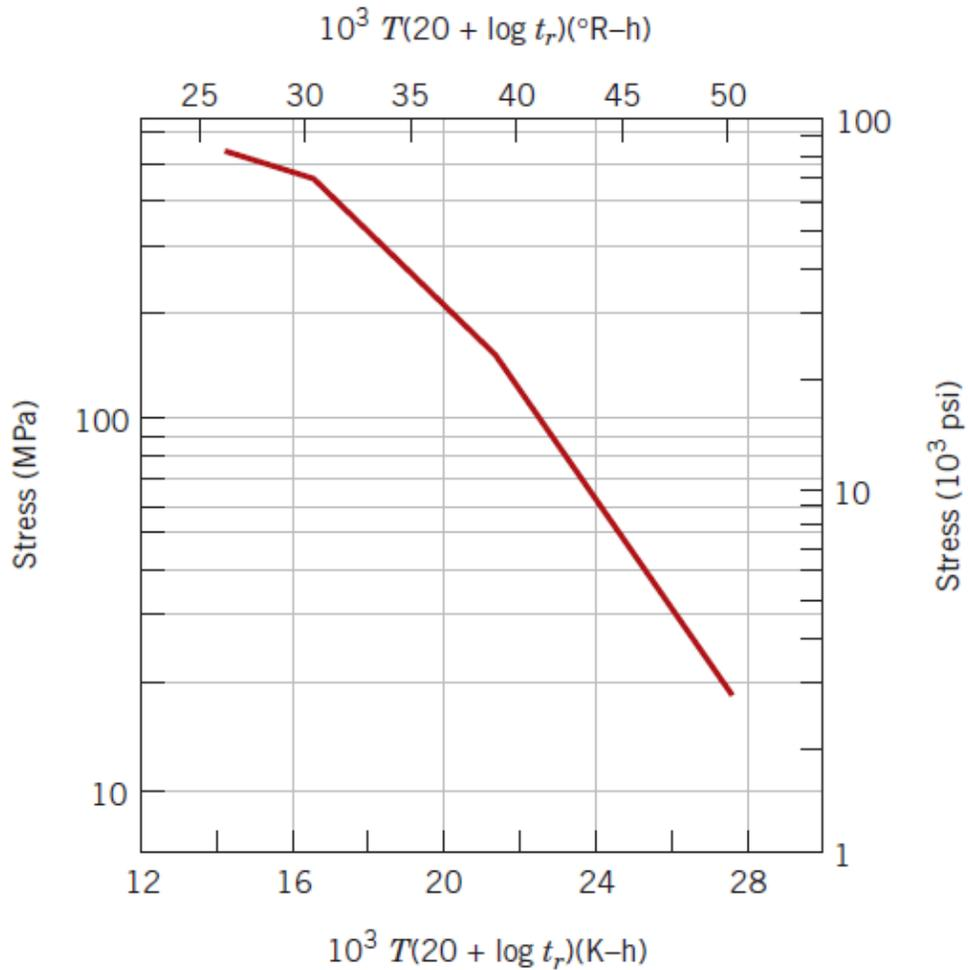

Fig.2 Logarithm stress versus the Larson–Miller parameter for an 18-8 Mo stainless steel
3. For an 18-8 Mo stainless steel (Fig.2), predict the time to rupture for a component that is subjected to a stress of 100 MPa (14,500 psi) at 600°C (873 K).
4. Consider an 18-8 Mo stainless steel component (Fig.2) that is exposed to a temperature of 650°C (923 K). What is the maximum allowable stress level for a rupture lifetime of 1 year? 15 years?